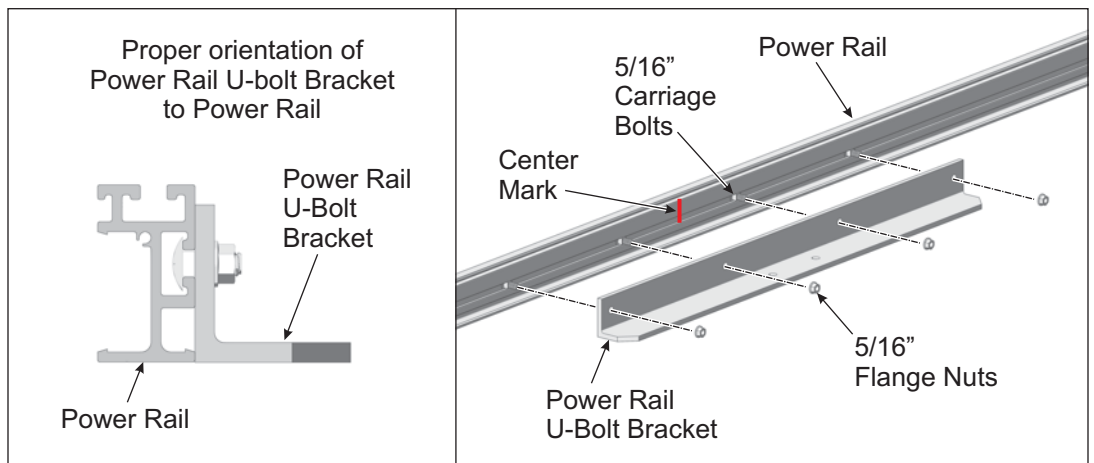

Figure 5-3: Orient and attach Power Rail U-bolt Bracket(s)
- D. Referring to Figure 5-3, orient and align the Power Rail U-bolt Bracket to the previously made center mark on the Power Rail.
- E. Guide each of the four carriage bolts into the four holes of the Power Rail U-bolt Bracket and secure with 5/16" flange nuts. Finger tighten for now as minor adjustments may be required when attaching to the Horizontal Pipes. (See Figure 5-3)